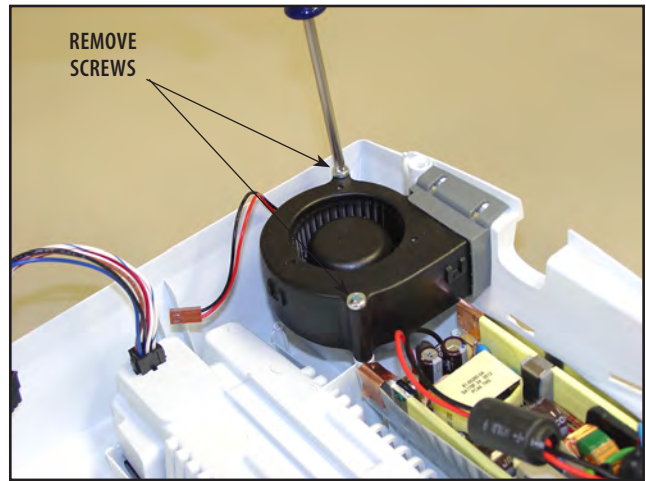

FIGURE 6.4
2. Using a #2 Phillips Screwdriver, remove the two Fan Retaining Screws securing the Fan to the system Bottom. **See Figure 6.4.**